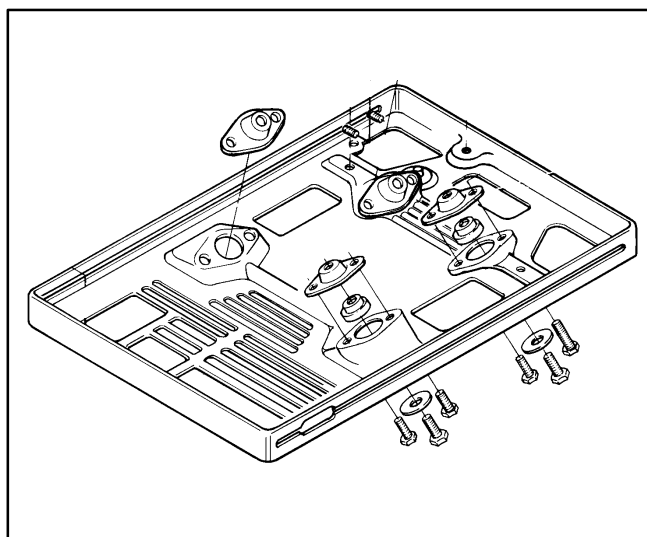

FIGURE 70. GENSET VIBRATION ISOLATORS
8. Remove the two generator vibration isolator center-bolts (Figure 70) and place a piece of "two-by-four" lumber under the engine-generator adapter to support the engine.